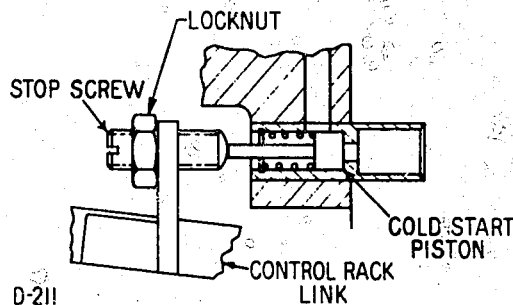

FIGURE 2
- 12) Repeat Steps 10 and 11 with lube piston rings (12), assuring that rings are seated properly in piston groove on top of "O" ring gaskets (13).
- 13) Install "O" ring gasket (4) in groove on piston spring seat (5) O. D.
- 14) Apply a film of grease, LU 3003 or equivalent to "O" ring gasket (4).
- 15) With the four notches on face of piston spring seat (5) inward, toward lube piston (14), slide piston spring seat (5) over manifold piston shaft (8) and press into lube piston (14) until firmly seated.
- 16) Insert lube piston (14), with piston rings (12) and "O" ring gaskets (13) installed, solid end first, into tapered end of hole in lube piston tool TSE 7993 (See Fig. 2) until piston is flush with other end of tool.
When engine is not running, the valve's spring loaded piston closes off the lube oil duct from the pump and allows oil trapped in the retard start piston chamber to drain into the governor area. While starting the engine, the valve piston is held closed by a stop on the control rack link (See Figure 2), this keeps the lube oil pressure from activating the retard start piston until engine has started.